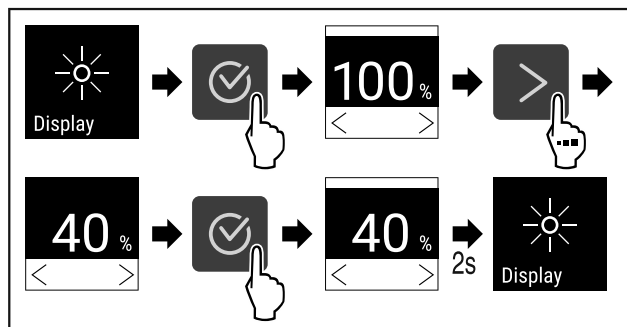

Fig. 102
- ▶ Complete the steps (see Fig. 102).